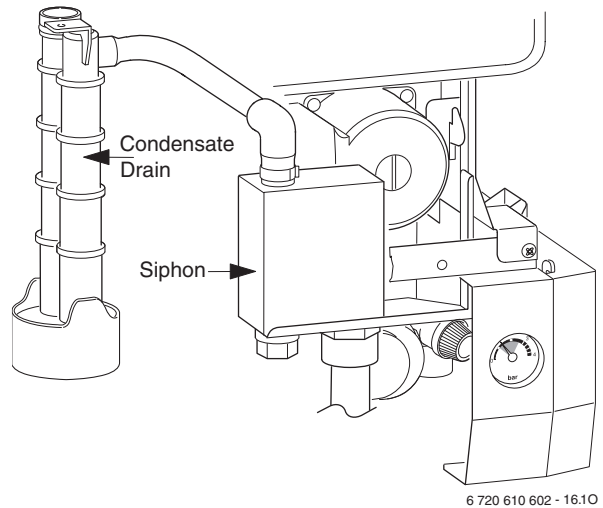

Fig. 59
- Unscrew and remove the siphon by releasing the jubilee clip. Refer to fig. 59.